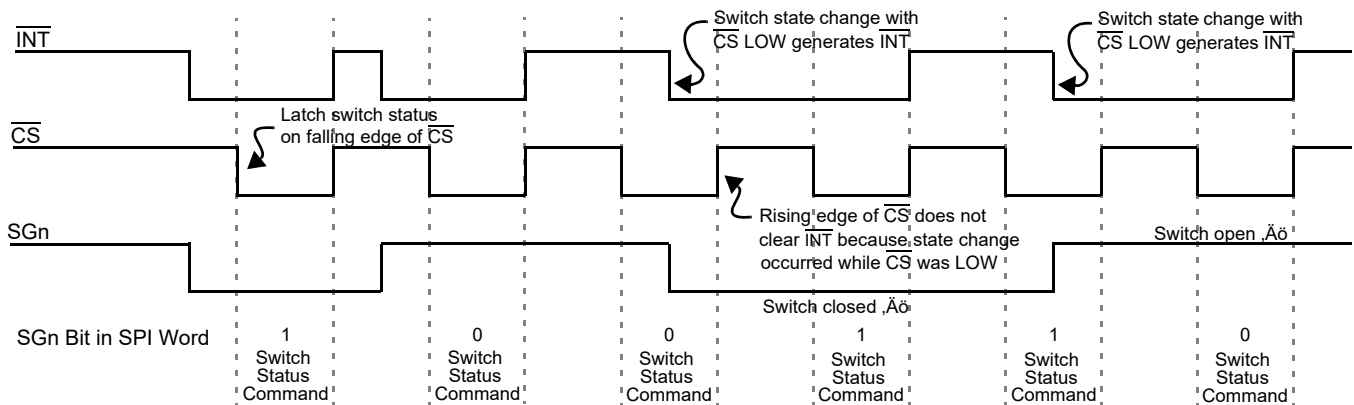

Figure 6. Normal Mode Interrupt Operation
2. \overline{INT} pin is reset to logic [1], except when additional switch changes occur during \overline{CS} LOW. (See Figure 6 on page 9.)